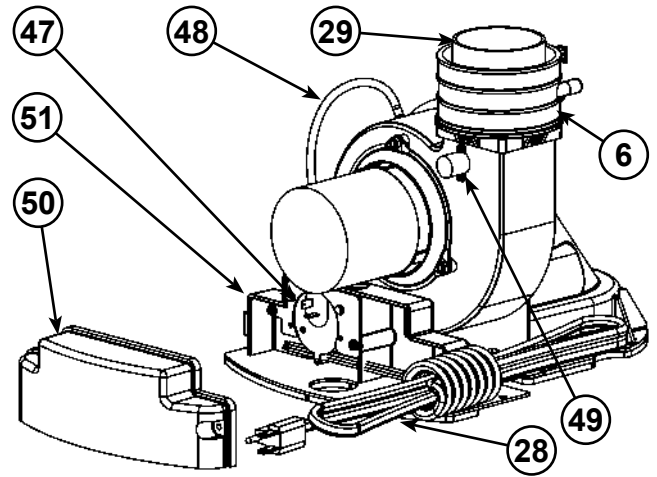

Figure 49
- 6 Gear Clamp (see Figure 6) (see also **Figure 49**)
- 29 *Rubber Coupling (see Figure 6) (see also **Figure 49**)
- 47 Air Switch (inside box) (see Figure 6) (see also **Figure 49**)
- 48 Air Tubing (see Figure 6) (see also **Figure 49**)
- 49 Blower High Limit Switch (see Figure 6) (see also **Figure 49**)
- 50 Junction Box Cover (see Figure 6) (see also **Figure 49**)